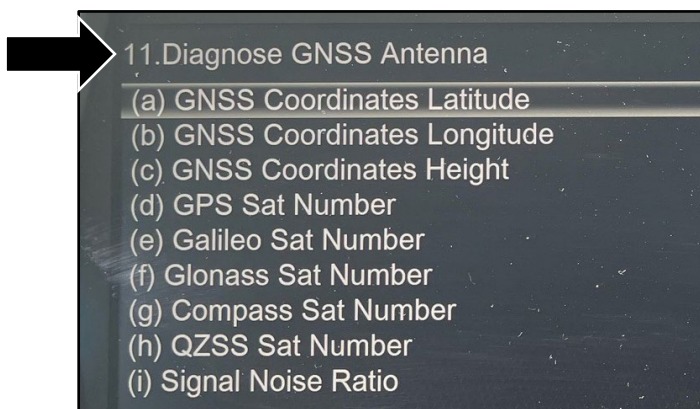

Figure 11
16. In the “Dealer Menu” scroll down and select “Diagnose GNSS Antenna” (refer to Figure 11).